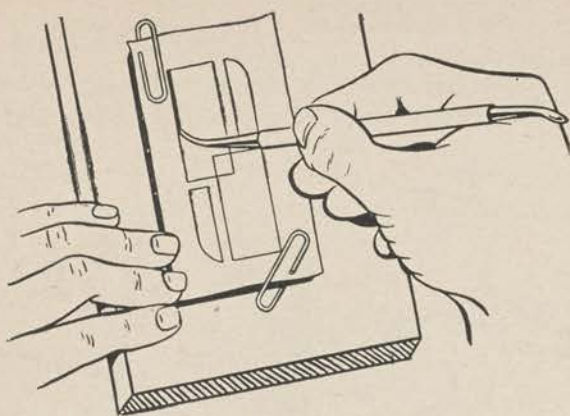

Figure 18.
c. To transfer the design to the object, dampen the leather slightly on both sides with a sponge or rag. The moisture must penetrate thoroughly, but the leather should not be wet enough to give out water when pressed with a modeling tool. With the pattern in place, trace over all the lines on the paper with a tracer, awl or other smoothly pointed tool (fig. 18). Bear down firmly, but do not permit it to break through the paper. When all lines have been covered, lift off the pattern and you will find that the design is lightly indented in the surface of the leather. The lines can be strengthened by going over them with the same tool after the paper has been removed (fig. 19). When the leather dries, they will remain in the surface so it is important to handle the tool with care as mistakes cannot be corrected. No further work is required if your design is a simple combination of thin lines as in the illustration. The same procedure is used, however, in outlining large areas to be modeled or embossed.